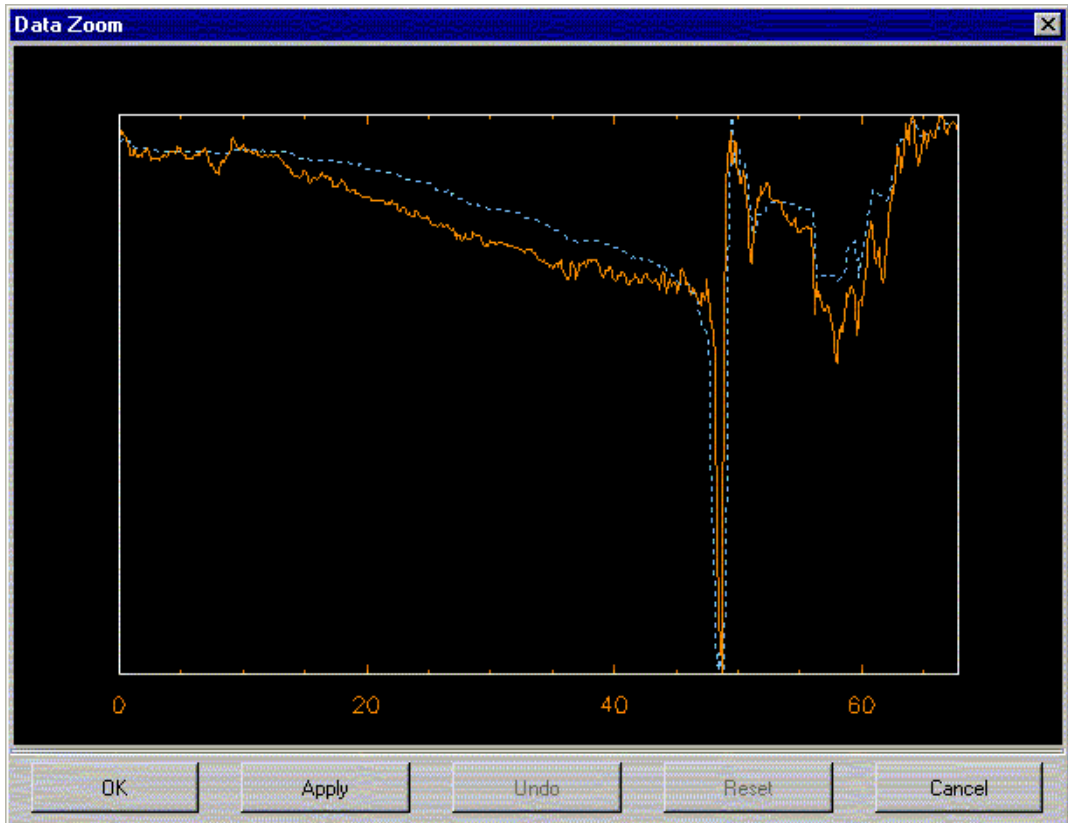

Figure 1-10 The Data Zoom dialog box.
- Step 2** Open the Data Zoom dialog box by selecting **View=>Data Zoom**. The Data Zoom dialog box appears, as shown in Figure 1-10.